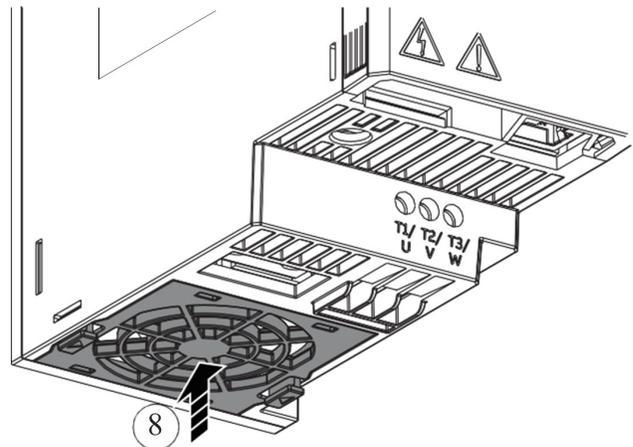

Fig. 54 — Place Fan Cover Back into Drive
8. Carefully put the fan cover into position in the drive. Make sure that the fan power cable is routed correctly. Push the cover to lock into position (see Fig. 54).